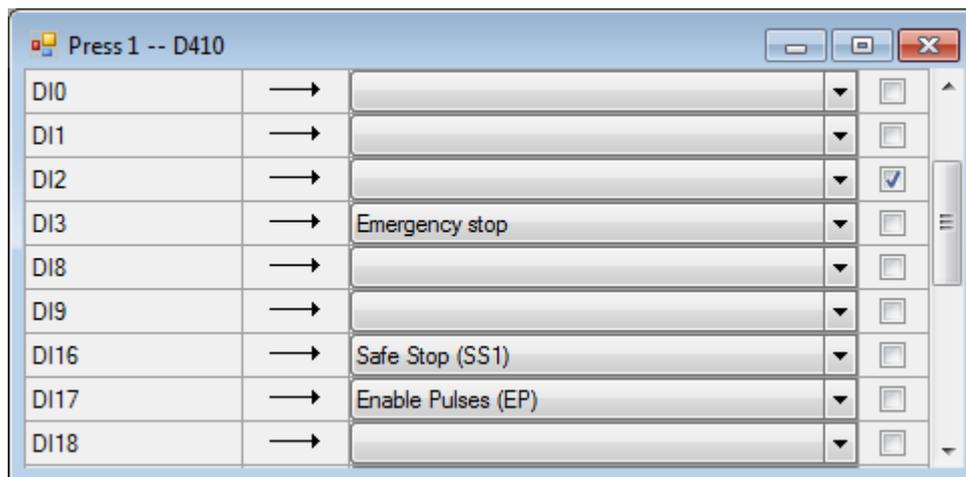

Figure 2: Selection of input 2 (DI2)
2. Select the input or output of the D410-2 to be associated to the user variable. To do this, click in the "CheckBox" of this physical input/output. (see figure 2 below).